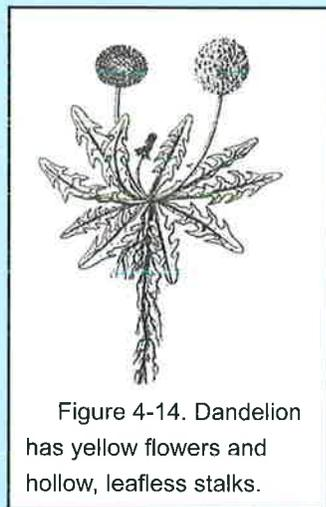

Figure 4-14. Dandelion has yellow flowers and hollow, leafless stalks.
**Dandelions** (Figure 4-14) are most conspicuous in cool seasons. Seeds germinate in fall, and the new seedling soon forms a sturdy taproot and a flattened rosette of narrow leaves with ragged edges. In fertile soil, the leaves may eventually grow to 10 inches long with jagged lobes pointing backward toward the stem. Every breeze scatters the delicate seeds widely. Dandelions bloom from spring through fall.